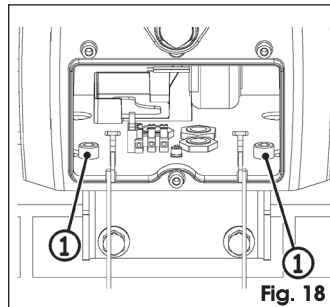

Fig. 18
6. Re-open the central compartment and tighten the other two screws (Fig. 18 ref. ①).